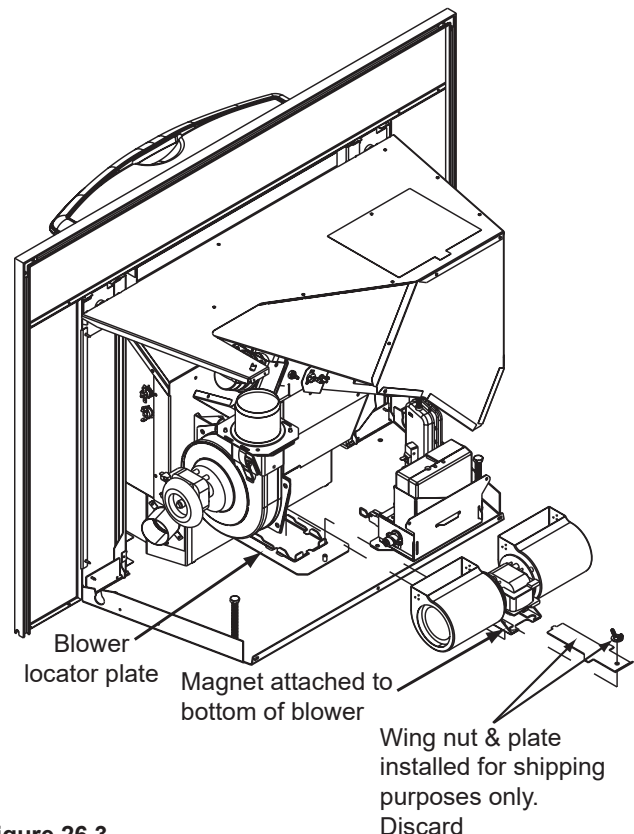

Figure 26.3
- Remove left access panel and then slide out left side panel of appliance to expose the convection blower. Loosen wing nut on the vacuum switch and remove vacuum switch to allow room to remove the blower (**Figure 26.3**).